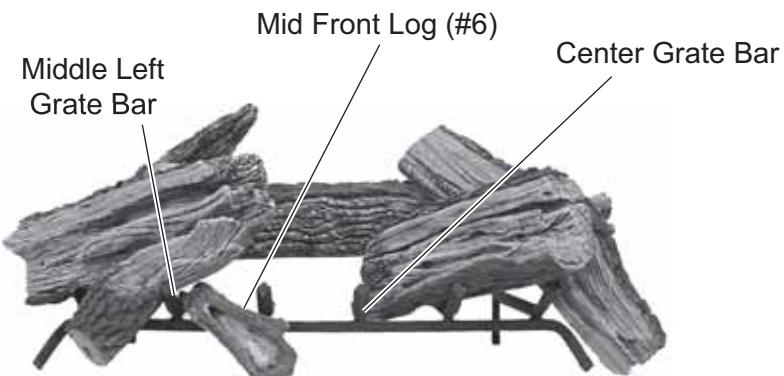

Figure 144 - Placing Mid Front Log (#6) on Grate Between Center and Middle Left Grade Bars.
7. Place Mid Front Log #6 on grate between center and middle left grate bars. Fit notch on back of log on the cross grate bar. *See Figure 144.*